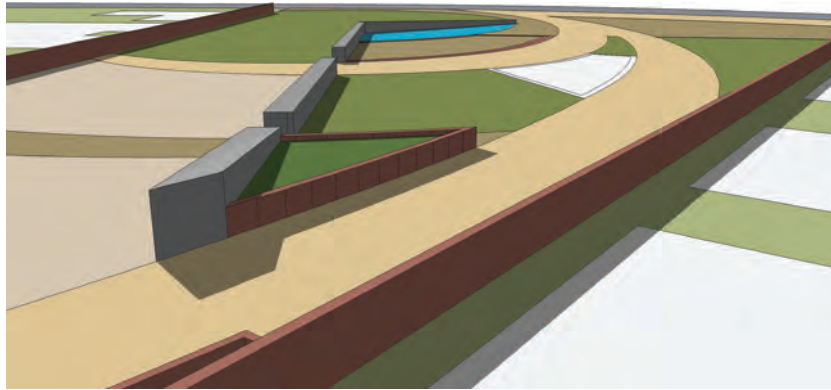

Fig. 18-33: The planter areas are raised. The decorative detail is added to the gray wall.
3. Adjust the volumes to provide the desired detail (Fig. 18-33).